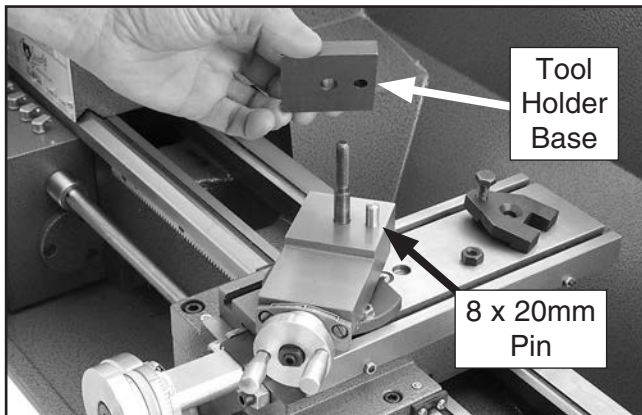

Figure 40. C-type tool holder components.
3. Replace the beveled pin from the compound slide with the 8 x 20mm pin (see **Figure 40**).